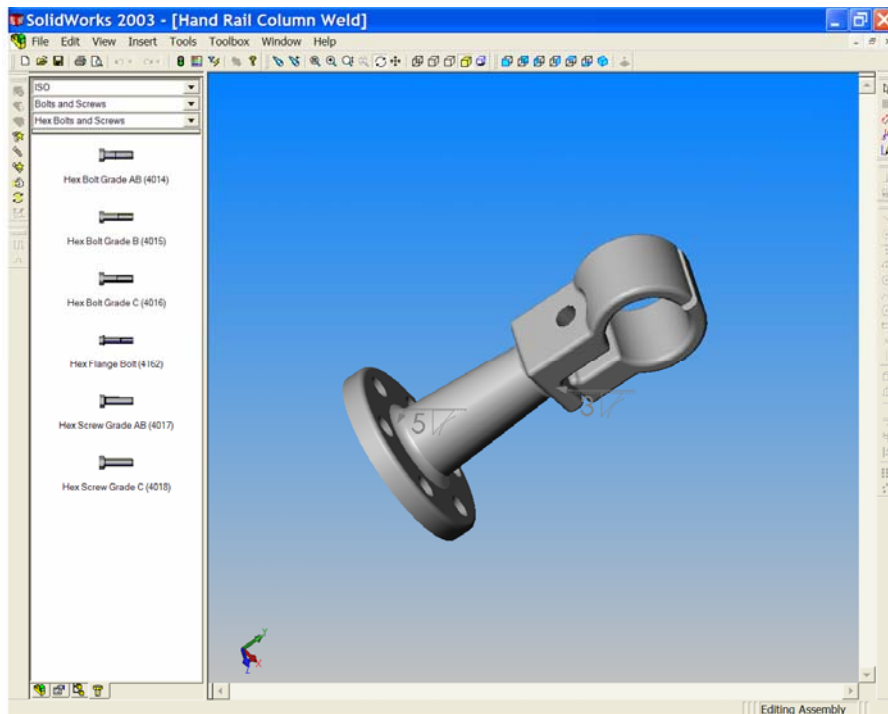

Figure 3
7. With the '**Rotate**'  button, manoeuvre the parts so that you can see the bolt hole in the main feature. See Figure 3.